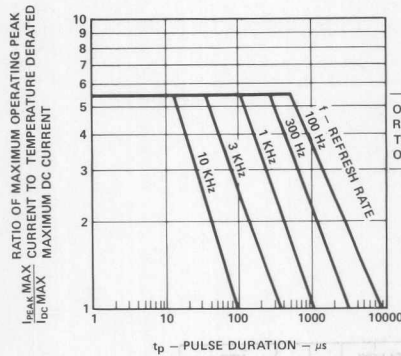

Figure 1. Maximum Allowable Peak Current vs. Pulse Duration
- See Figure 1 to establish pulsed operation. Maximum pulse width is 1.5 mS.